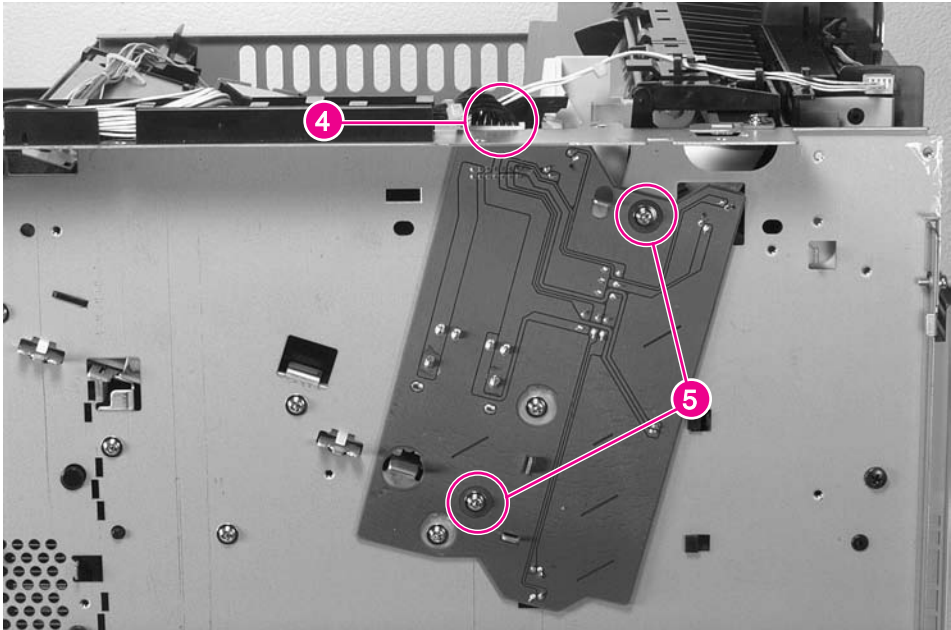

Figure 6-47
- 5 Unplug the connector (figure 6-47, callout 4).
- 6 Remove 2 screws (figure 6-47, callout 5), and unplug the connector on the back side of the PCA.